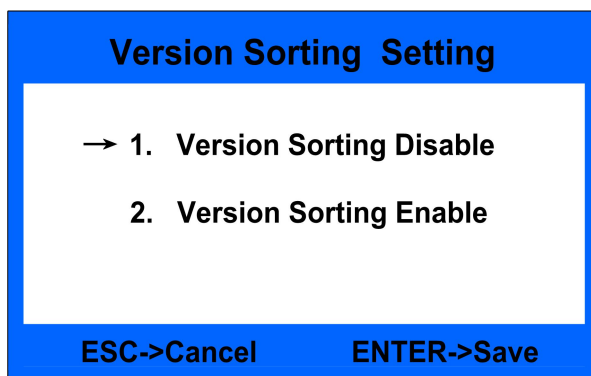

Fig.26
Move the cursor to the user setting interface under Fig.19, choose item 3. Version sorting and then press ENTER key to enter the below interface, shown as Fig.26: